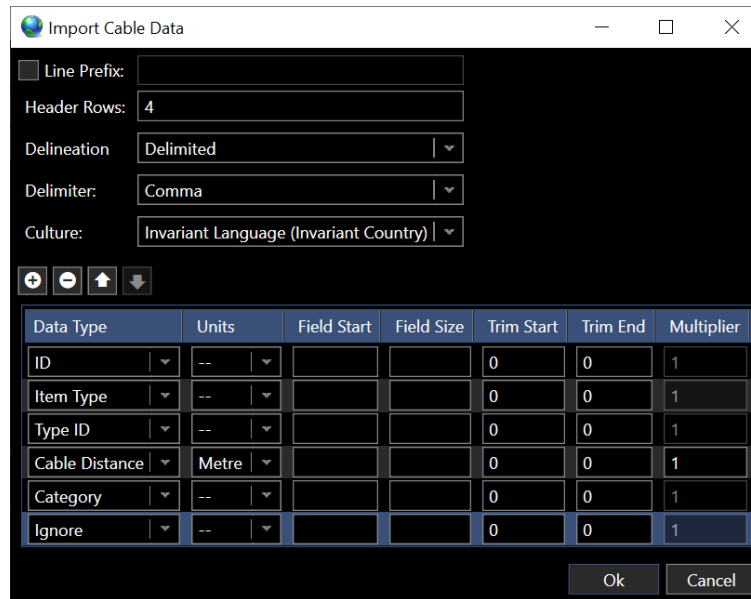

FIGURE 15-21 CONNECTIONS – DITGO - IMPORT CABLE DATA DIALOG
- i. Click on the **Import** button  and browse to the required file then select open. This will then open the **Import Cable Data** dialog (See Figure 15-21). The dialog is used to parse out the data from the file for NavView to utilize